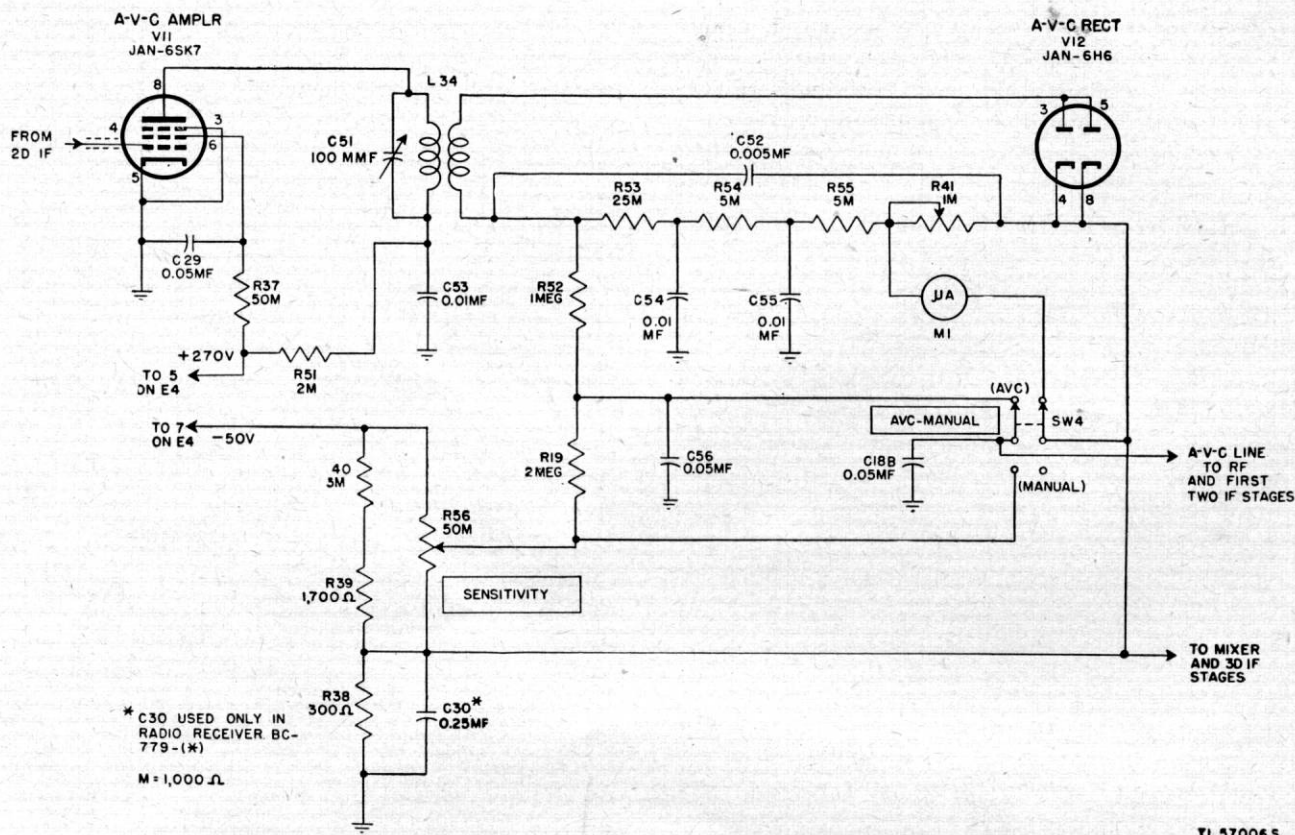

Figure 31. Radio Receiver BC-779-B, functional diagram of a-v-c stages.
a. *MIXER TUBE JAN-6L7.* For simplicity, capacitor C71, main tuning ganged capacitor C1C, and band spread ganged capacitor C2C are represented as a single variable capacitor *C* across the inductance trimmed secondary of r-f transformer L18. Signal voltages across *C* are applied through 600-mmF capacitor C11 to signal grid G1 (top cap) of pentagrid mixer Tube JAN-6L7. Fixed bias from the voltage divider (fig. 31) is applied through a filter circuit (10,000-ohm resistor R10 and 0.01-mf capacitor C12) and 500,000-ohm grid resistor R9 to the signal grid. Screen grid G2 and G4 (pin 4) forms a screen about injection grid G3 (pin 5), and the h-f oscillator output is coupled through 95-mmF capacitor C13 to the injection grid. Since the screen grid shields the signal and injection grids from one another, the tube electron stream is modulated independently by the r-f and oscillator signals. Heterodyne action produces sum and difference frequencies in the mixer output. The primary of transformer T1 is tuned by C21 to the 465-kc *difference* frequency to which the i-f amplifier is also tuned. The i-f voltage across the secondary winding of transformer T1 is applied to the crystal filter.
65. A-V-C Circuit (fig. 31)
and to the control grid (pin 4) of the a-v-c amplifier stage V11 (fig. 31). V7 and V11 have a common grid circuit, including fixed bias. The suppressor and cathode of V11 are grounded; screen voltage is applied to pin 6 through 50,000-ohm series-dropping resistor R37; and the screen is bypassed by 0.05-mf capacitor C29. Plate (pin 8) voltage is applied through 2,000-ohm filter resistor R51 and the primary of transformer L34. The primary of L34 is tuned to 465 kc by 100-mmF capacitor C51, and capacitor C53 (0.01-mf) bypasses high frequencies to ground. The transformer secondary is untuned.